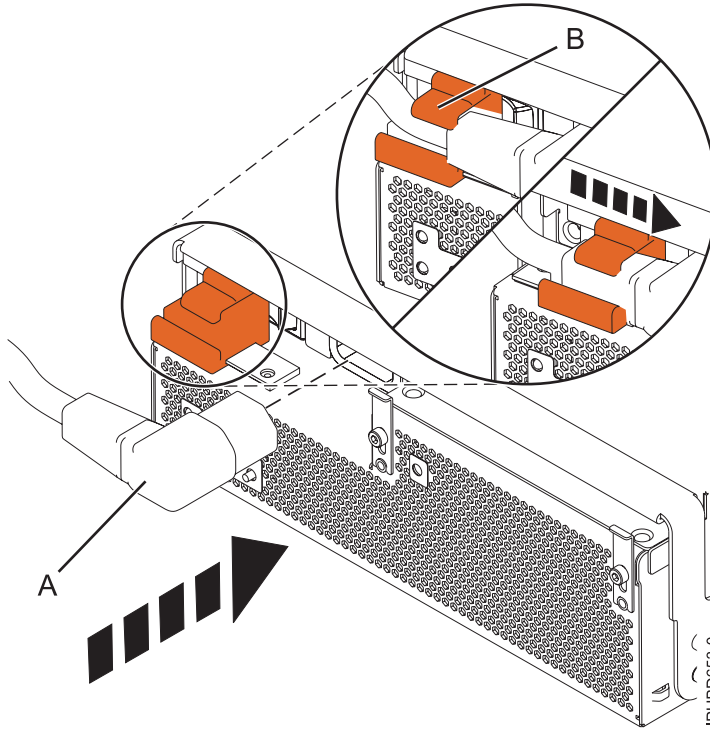

Figure 25. Connecting the power cable to the front of an expansion unit
8. Reconnect the power cable (**A**) to the front of the power supply, and then slide the cable retention bracket (**B**) to the closed position to secure the cable as shown in Figure 25 on page 24. By moving the bracket to the closed position, you turn on the power supply.